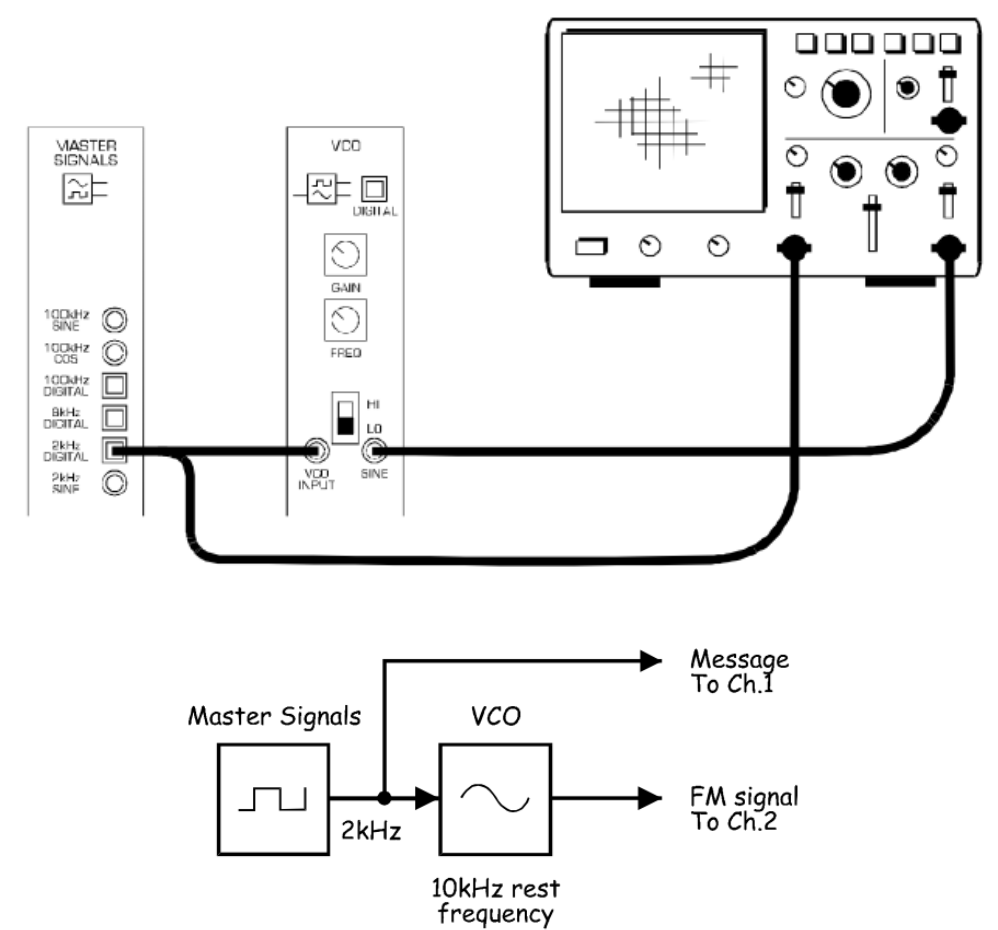

Figure 21:
9. Now modify the setup according to Figure 21. Note that the scope's connection to the VCO module's output has changed.